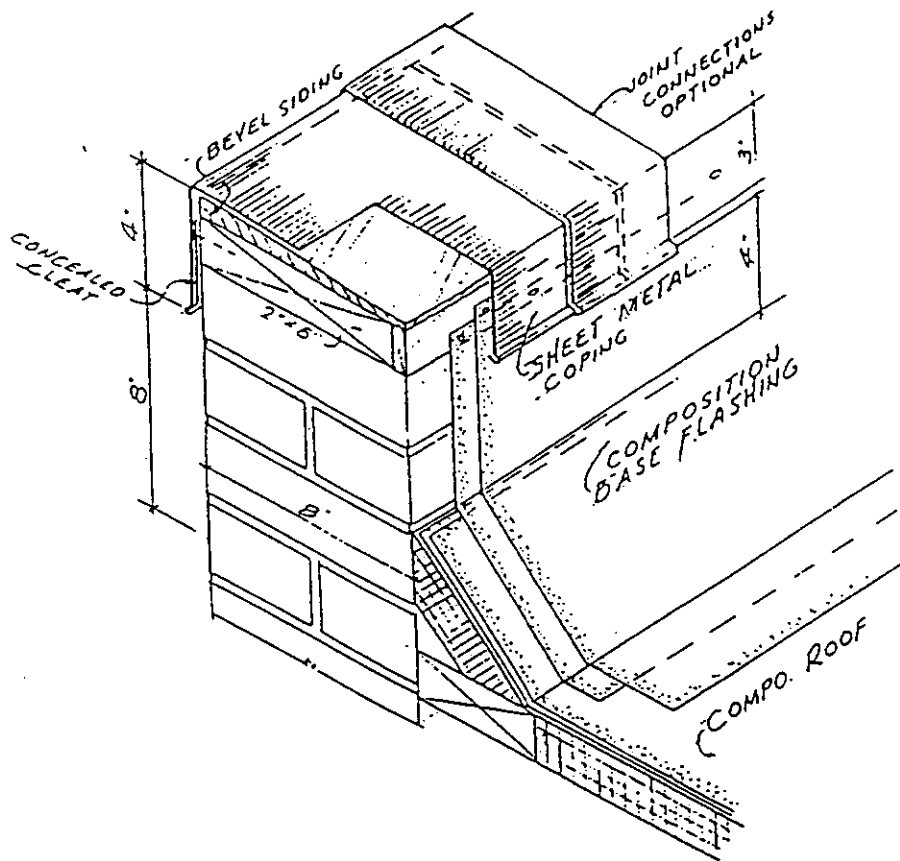

FIGURE 42
- D) "COPINGS" ARE METAL PIECES PLACED ON TOP OF WALLS TO COVER THE WALL AND ANY BASE FLASHING ON THE WALL. (SEE FIGURE 4).